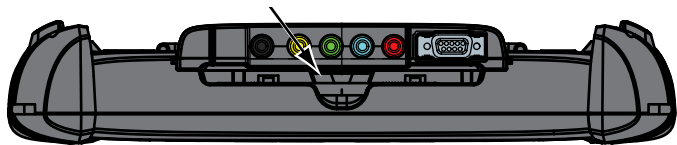

Figure 8-1 Scope Multimeter release tab
1. Depress the Scope Multimeter module release tab located on the top of the diagnostic tool (Figure 8-1).